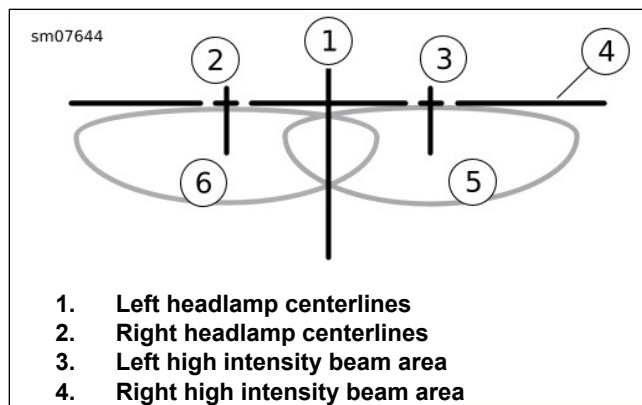

Figure 69. Headlamp Alignment: HDI
7. With the motorcycle loaded, point the front wheel straight forward at wall. Measure the distance (4) from the floor to the center of the low beam bulbs.
8. Draw a horizontal line (5) at the measured bulb centerline.
10. See Figure 69. Mark the headlamp centerlines (1, 2) on the wall to intersect the horizontal line.
4. Turn headlamps on low beam. Cover the right headlamp. Adjust left headlamp so the top of the high intensity zone (3) is below and approximately centered under the left centerlines as shown in Figure 69.
5. Cover the left headlamp. Adjust right headlamp so the top of the high intensity zone (4) is below and approximately centered under the right auxiliary/fog lamp centerlines as shown in Figure 69.